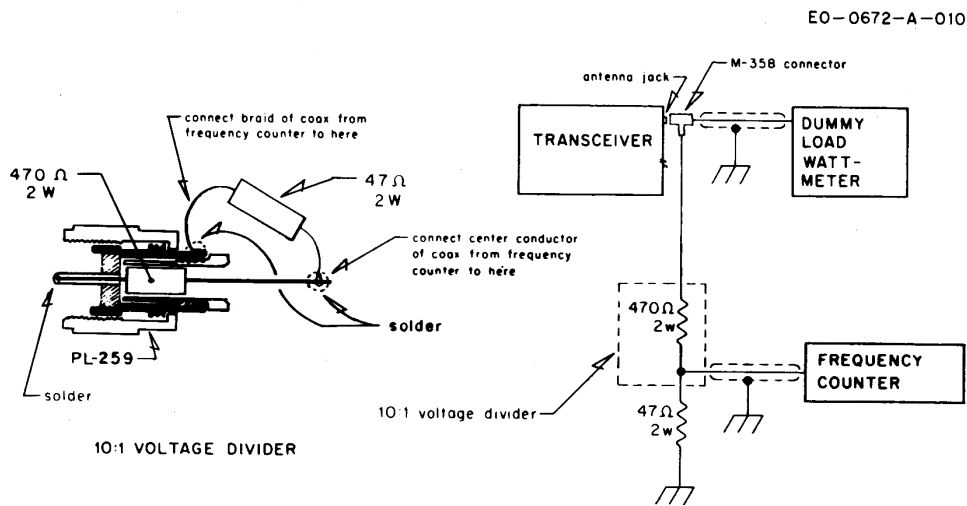

Figure 3-4. Connection of Frequency Counter and Dummy Load
**NOTE:** See Figure 3-4 for connection of the frequency counter and the dummy load.